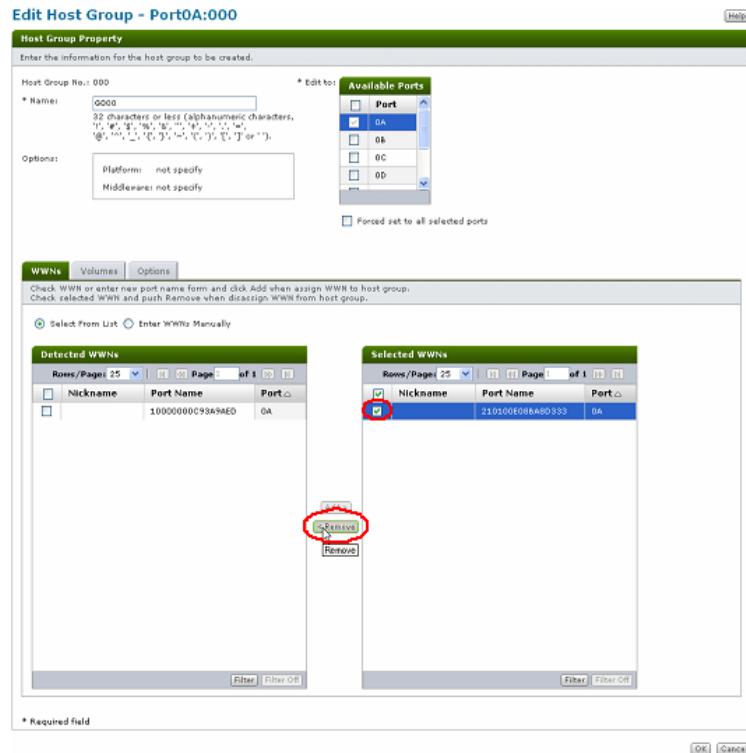

Figure 6-31: Edit Host Group - WWNs tab, changing nickname
1. In the Host Groups window (Figure 6-27 on page 6-31), click the WWNs tab. The WWNS tab appears (see Figure 6-31).
1. In the Host Groups window (Figure 6-27 on page 6-31), click the WWNs tab. Figure 6-31 on page 6-37 appears.